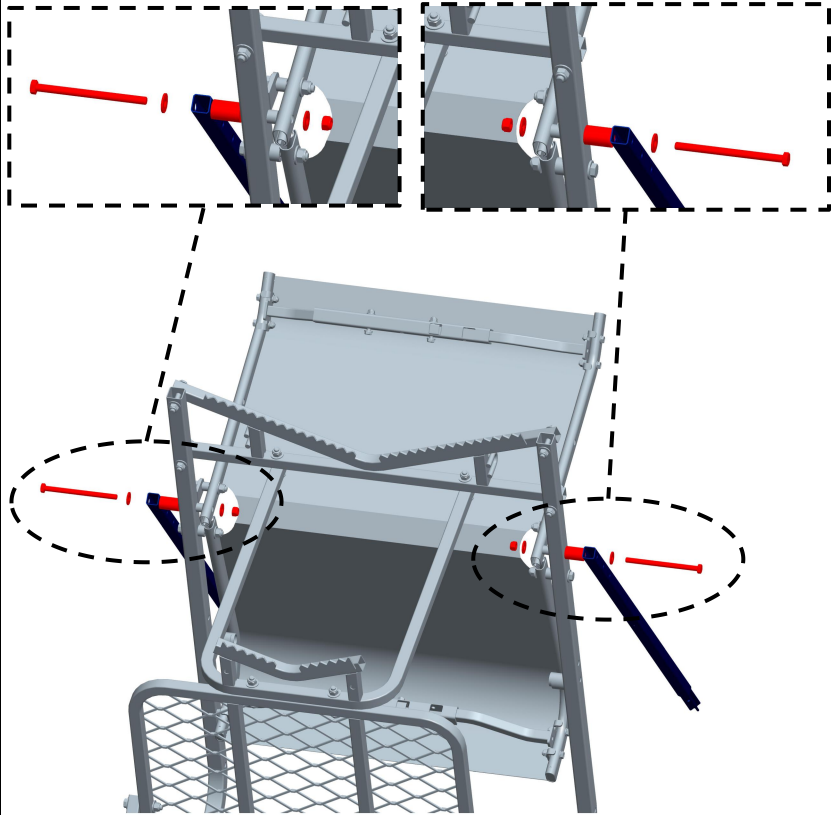

Figure 13
Locate two Shooting Rail Support Bars (#4). Install the Shooting Rail Support Bars (#4) onto Left Bending Bar (#2) and Right Bending Bar (#3) using two (2) M8x115 Bolts, four (4) Steel Washers, two (2) Thick Nylon Washers and two (2) Locknuts as shown in Figure 13. Securely tighten bolts noting shooting rail is designed to rotate up and down.